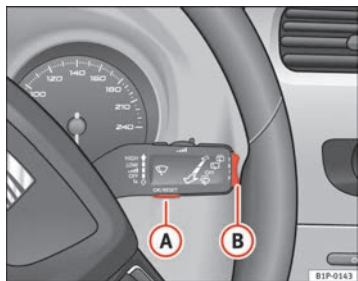
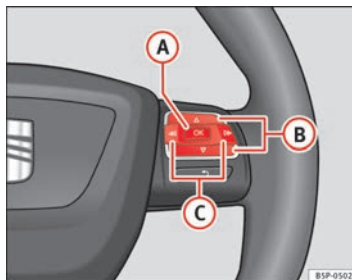

Fig. 43 Windscreen wiper lever: button A to confirm the menu selection and rocker switch B to change the menu
Fig. 44 Steering wheel controls: button A to confirm the menu selection and switch B to change the menu
⇒ page 68, fig. 44 until the menu is displayed. Now you are in this menu.
- To change from one memory to another, briefly press button **A** ⇒ page 68, fig. 43 ⇒ page 68 on the windscreen wiper lever or the **OK** button on the multifunction lever ⇒ page 68, fig. 44 ⇒ page 68 while the ignition is switched on. ▶
The following data can be viewed on the multifunction display using the rocker switch **(B)** ⇒ page 68, fig. 43 ⇒ page 68 on the windscreen wiper lever or by pressing button **(Δ)** or **(▽)** ⇒ page 68, fig. 44 on the multifunction steering wheel*.